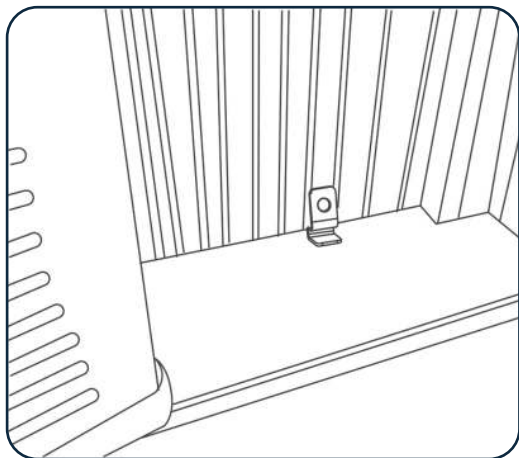
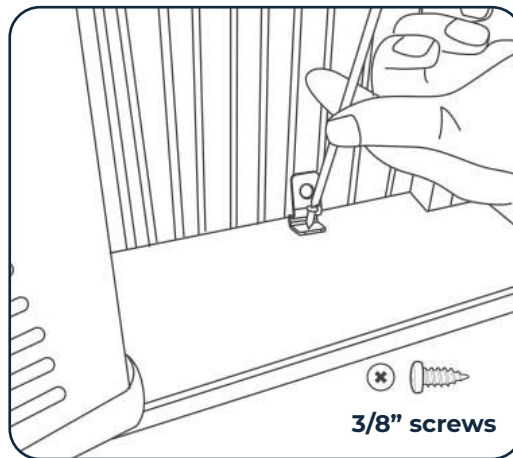

Fig.9
Fig.10
- Place the frame lock between the extended accordion panels and the window sill as shown in **Fig.9**. Screw a 3/8" locking screw through the frame lock and into the window sill (**Fig.10**).